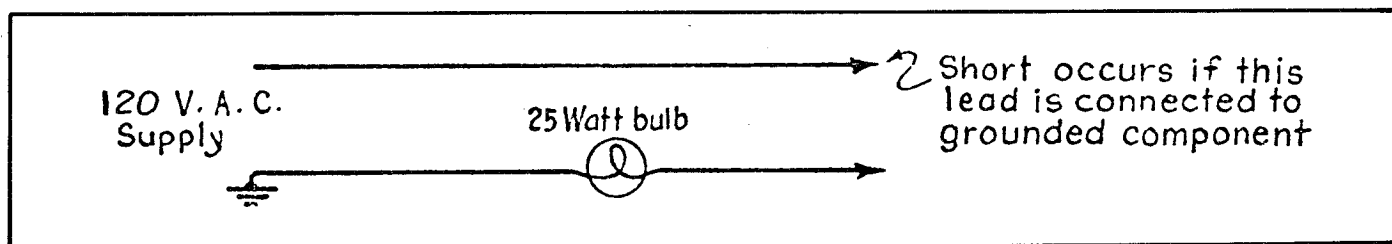
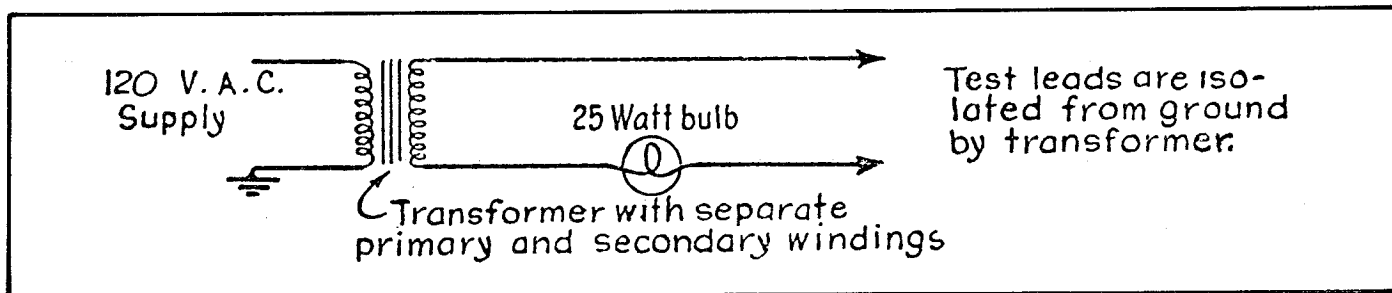

FIGURE 4-3. TEST LAMP SET
FIGURE 4-4. RECOMMENDED TEST LAMP SET
**CAUTION** Avoid grounding the hot lead of a tester (Figure 4-3) when checking a Magneciter component installed on a generator. A tester with an isolation transformer circuit (Figure 4-4) is not subject to such a problem. This is the preferred type to use with a Magneciter.